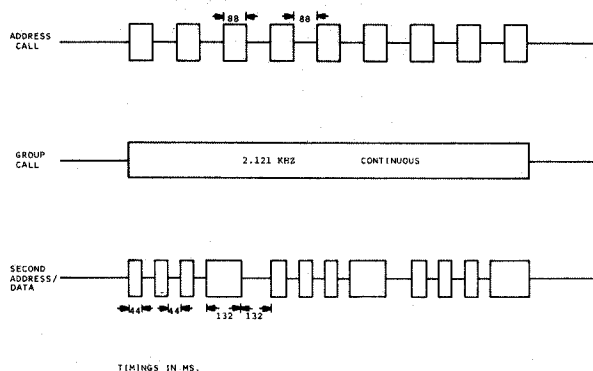

FIGURE 5 ALERT OUTPUT PATTERNS
3) Refer to Fig. 5 for alert patterns and timings.
The 2.121kHz clock is chopped as shown in Figure 5. An even mark/space alert signals an address call and a continuous note indicates detection of a group call. A second address/data call is announced by the distinctive pattern shown.
The suffix Tone B also causes the circuit to generate a different second address/data alert output as illustrated in Figure 5. Automatic time-out of the alert is inhibited and can be reset by either the Transmit Enable or Mute Reset & P.T.L. inputs. If a selective call is transmitted with Tone B suffix but no data it can be used as a 'second address' facility.